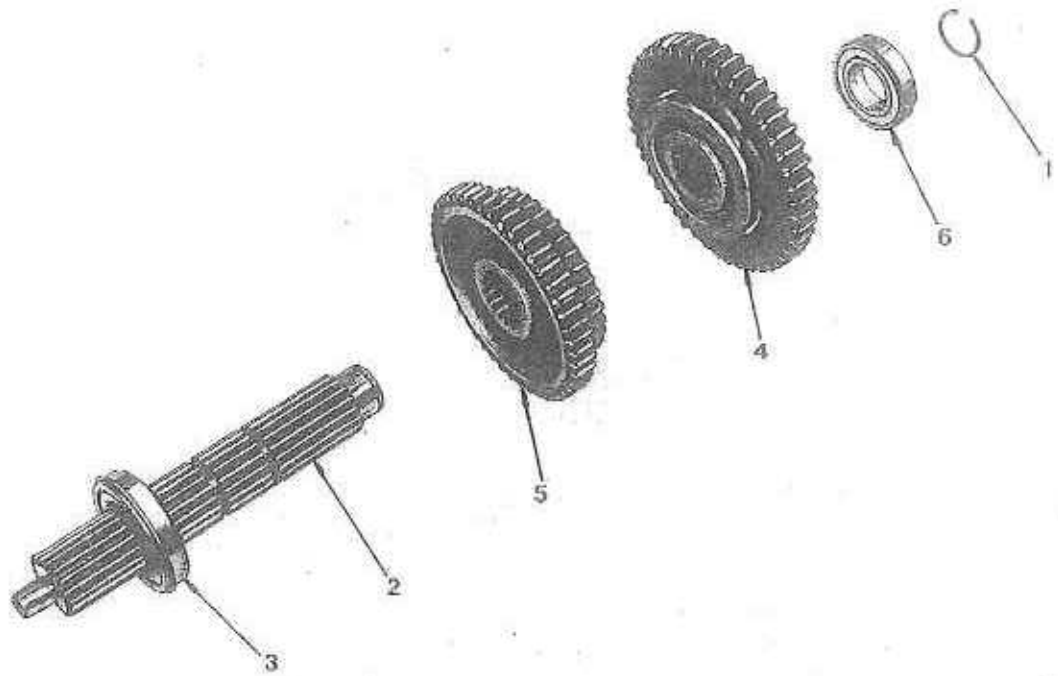

FIG. 8
1. (Fig. 8) Remove the snap ring (1) from the front end of the mainshaft.
3. (Fig. 8) Withdraw the mainshaft (2) with its rear bearing. (3).
4. Lift out the mainshaft, 1st gear (4) and 2nd/3rd gear (5).
5. Remove main shaft front bearing (6).
1. (Fig. 8) Fit the mainshaft front bearing (6) to its housing. The shield must face forward.
2. Place the mainshaft 1st gear (4) and 2nd/3rd gear (5) in position. The bosses must be together.
3. Fit the mainshaft (2) with its rear bearing (3) through the rear of the transmission housing and assemble the mainshaft 1st and 2nd/3rd gears to their splines on the mainshaft.
5. Remove the mainshaft rear bearing outer snap ring and drive the mainshaft forwards into its front bearing until the mainshaft front snap ring (1) can be fitted to its groove.
7. Fit the snap ring (1) to the front end of the shaft.